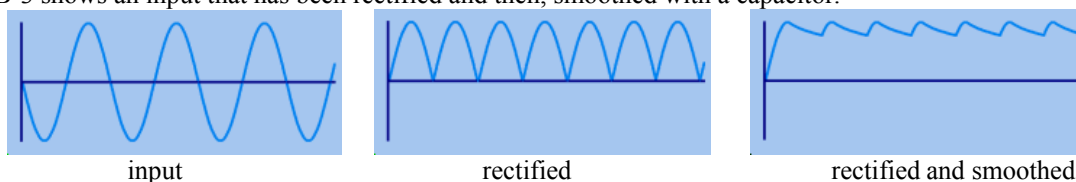

Figure B-3
*smoothing capacitors:* You already know that an RC circuit has a characteristic charge and discharge rate. You should also be aware that larger capacitors charge and discharge more slowly than smaller ones. We can take advantage of the charge and discharge rates of capacitors in order to make the signal from our rectifier more like a DC voltage. As the signal in our rectifier increases, it charges the capacitor. As it decreases, the capacitor discharges. If the capacitor has a sufficiently long discharge rate, it will hold most of its charge until the next positive cycle of the input recharges it. This results in an output signal much closer to a true DC signal. Figure B-3 shows an input that has been rectified and then, smoothed with a capacitor.